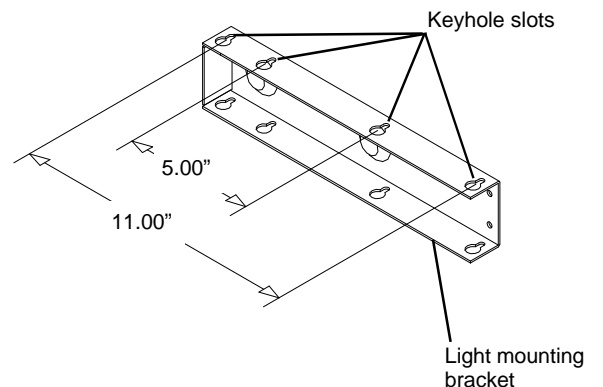

Figure 2b
**NOTE:** 12" deep shelves use the two *inner* keyhole slots on 5" centers; 18"/24" deep shelves use the two *outer* keyhole slots on 11" centers. See **Figure 2b**.